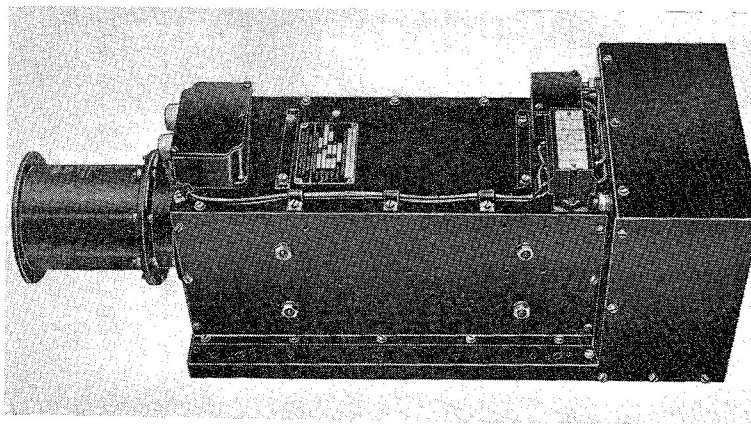

Fig. 1. Transformer-rectifier unit, Type AE5717
3. The transformer and the rectifier unit (fig. 1) are mounted on a common base, but each is enclosed in its own housing. Attached to the end of the rectifier housing at the air inlet end, is a blower unit, which provides a cooling air flow through the unit. The transformer cover has a circular aperture with eight 2 B.A. stiffnuts with double anchor plates riveted equidistant around its circumference. This allows for a duct connection to be made for the exhaust cooling air.